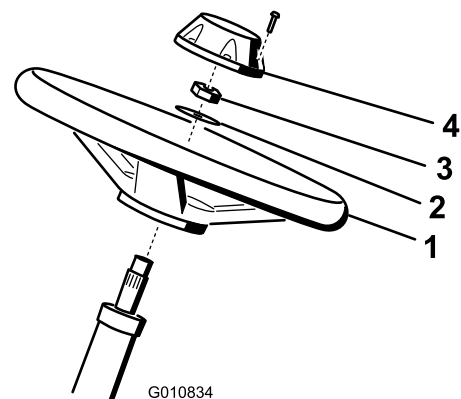

Figure 3
1. Slide the steering wheel onto the steering shaft (Figure 3).
2. Slide the washer onto the steering shaft (Figure 3).
- Secure the steering wheel to the shaft with a jam nut and tighten it to 20 to 26 ft-lb (27 to 35 N-m) (Figure 3).
- Install the cap to the steering wheel and secure it with a screw (Figure 3).